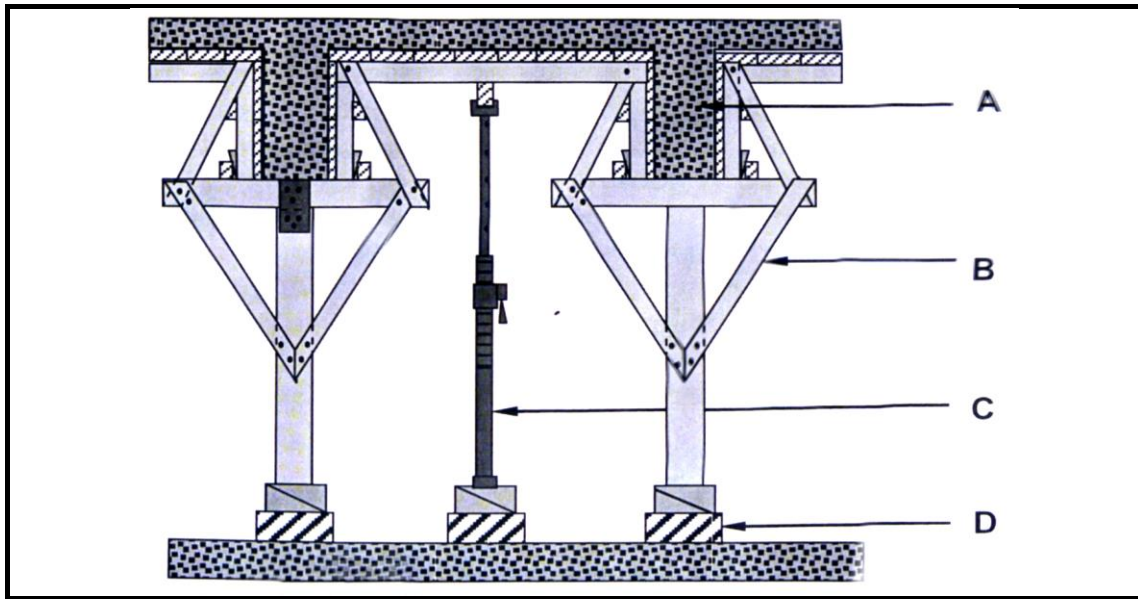

FIGURE 5.5
5.5 FIGURE 5.5 below shows a vertical sectional view through formwork for two concrete beams. Study FIGURE 5.5 and answer the questions that follow.